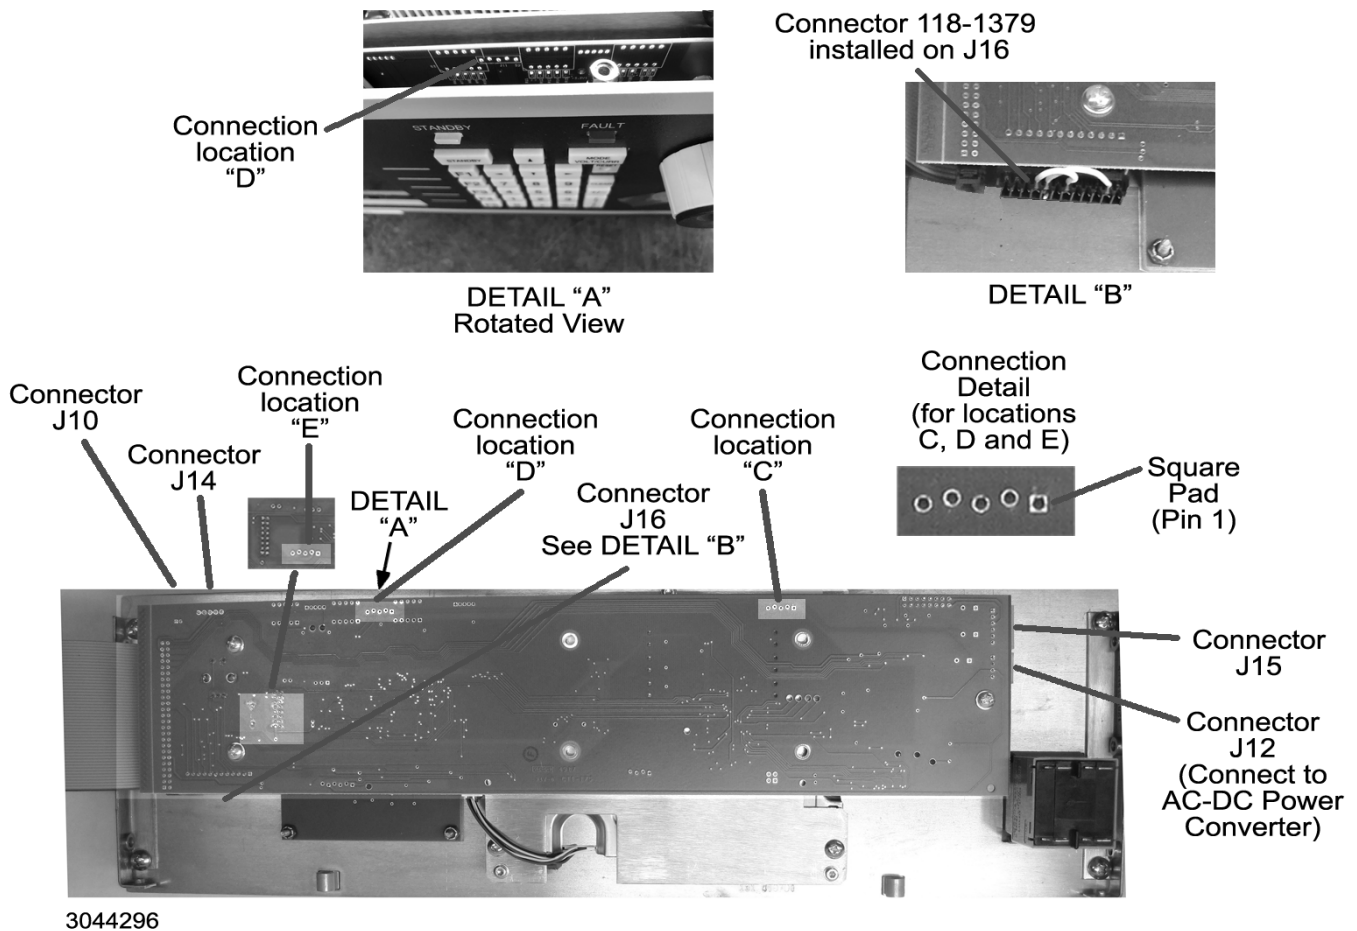

FIGURE 1. A6A1 BOARD (ATTACHED TO FRONT PANEL), COMPONENT LOCATIONS
5. Disconnect one 4-pin and one 6-pin connector) (J12, J15, Figure 1). If necessary a screw driver can be used to apply pressure to the front panel to separate the mating connectors.
6. Refer to Figure 1 to locate the programming connection for the serial processor firmware update (PAR. 3.7) at either Location "D" or "E" (depending on PWB revision) It is five holes in the Printed Wiring Board that are not in line but slightly joggled. If the programming connection is found at Location "D", skip all remaining steps and proceed to PAR. 3.3.
7. Remove 5-pin connector (J14, Figure 1) from Distribution board A6A1. A screwdriver can be used to apply pressure as needed to separate the mating connectors.
8. Carefully remove the hot melt glue securing connector (J10, Figure 1). Once the glue is removed pull the connector body (not the wires) straight back. A screwdriver can be used to apply pressure as needed to separate the mating connectors.
- Install the 5-pin header (supplied) into the bottom of the PICKit, then install the other end of the PICKit into Location) “C” shown in Figure 1.
- Connect the AC-DC Power Converter d-c cable to the 4-pin connector the 4 pin connector as shown in Figure 1. [closest to the circuit breaker mounted on the display panel].
2. Locate the programming connection at Location “C” as shown in Figure 1. It is five holes in the Printed Wiring Board that are not in line but slightly joggled. This allows the male pins of the PICKit Programmer to be firmly retained in the socket.
- Locate the programming connection at either Location “D” or “E” (depending on PWB revision) as shown in Figure 1. It is five holes in the Printed Wiring Board that are not in line but slightly joggled. This allows the male pins of the PICKit Programmer to be firmly retained in the socket.
- Install Connector P/N 118-1379 on J16 of A6A1 board (see Figure 1).
3. Connect two 4-pin connectors (or one 4-pin and one 6-pin connector), and one 5-pin connector attached to twisted pairs to connectors J12, J15 and J14, respectively on Distribution board A6A1 (see Figure 1). The 4-pin connectors can plug into either J12 or J15; holding the wires, line up the pins on an angle, then push until straight and press into place; if necessary a screwdriver can be used to apply enough pressure to front panel to slightly increase separation between front panel and Distribution board A6A1, enough for the connectors to be inserted.
4. Attach the fan connector (J10, Figure 1) by inserting the connector straight into the mating socket.